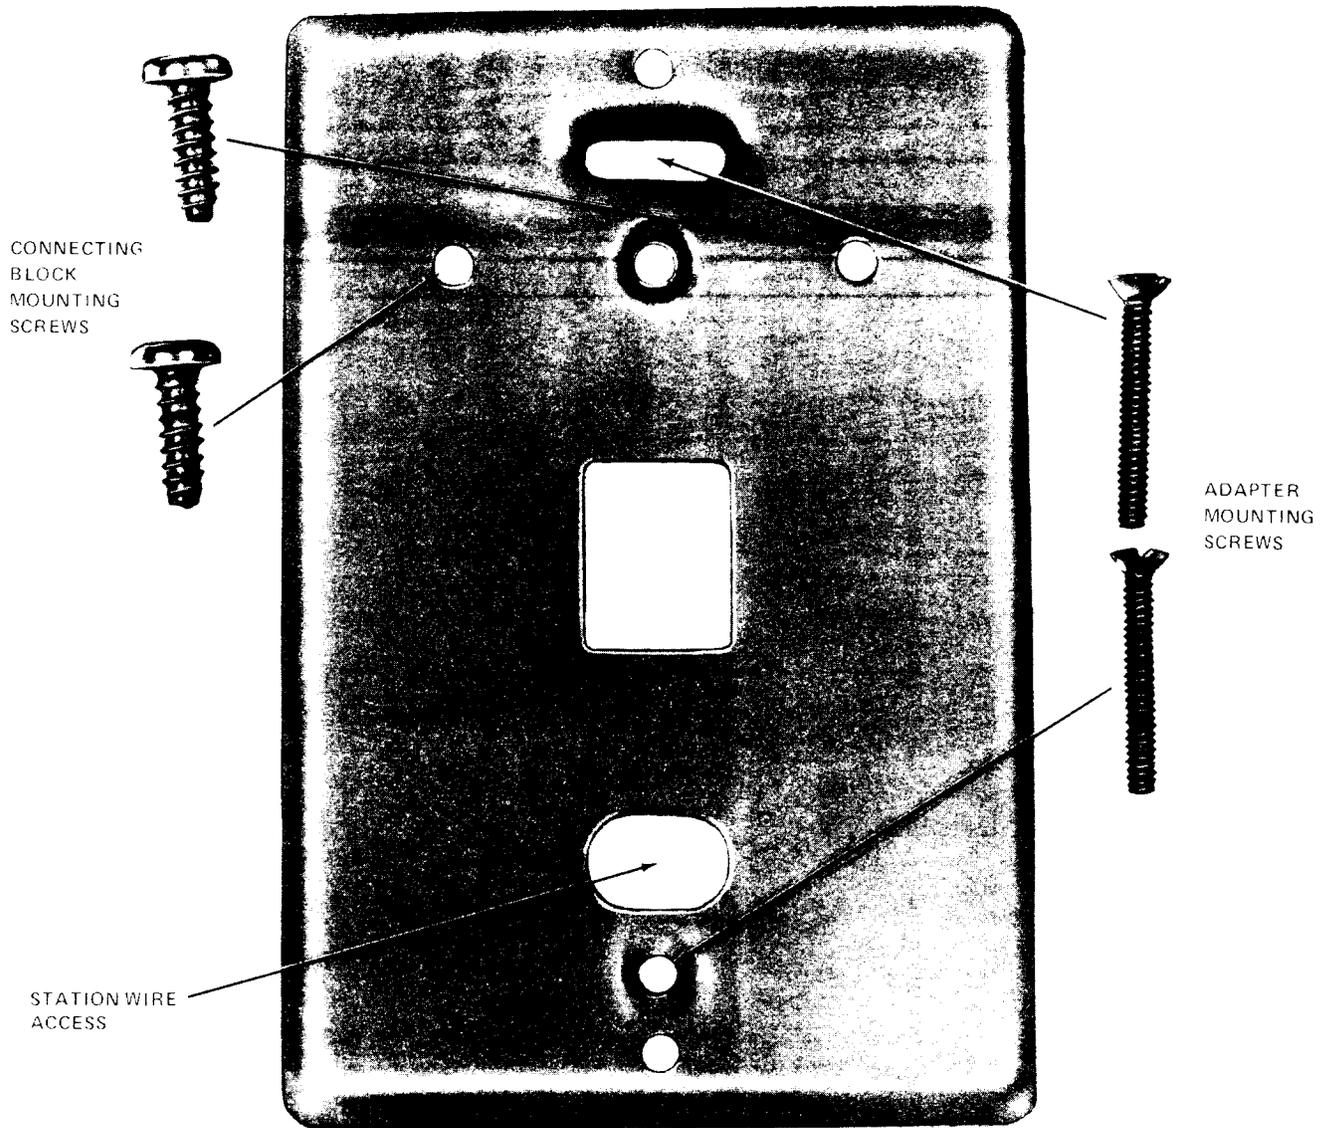

Fig. 3—275A Adapter
**2.03** The 275A adapter (Fig. 3) is used for mounting the 86A connecting block to a standard wall outlet box.